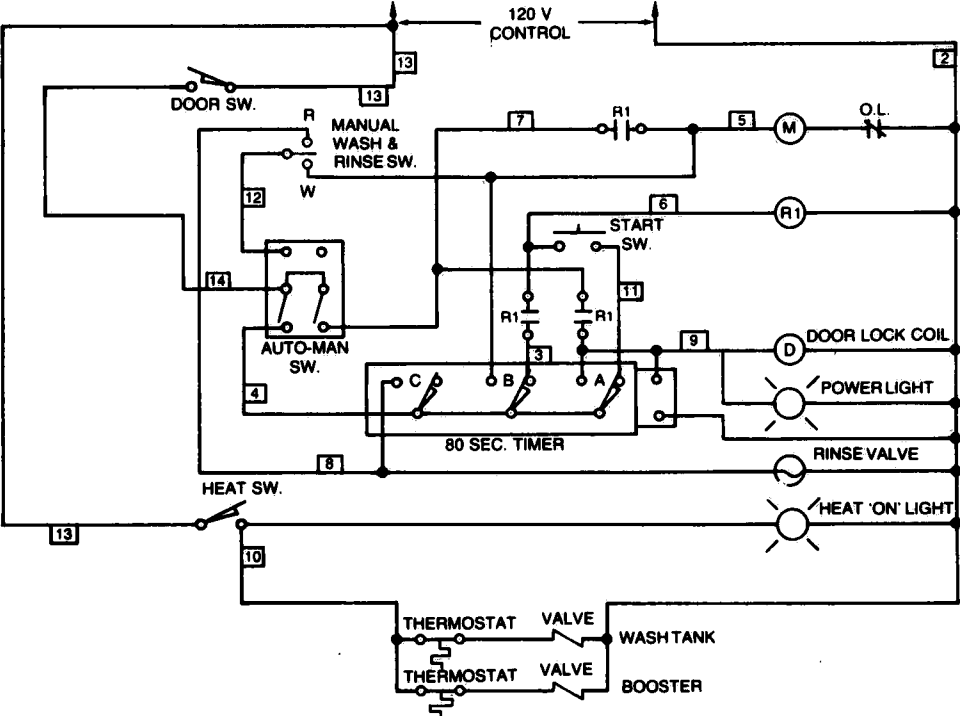
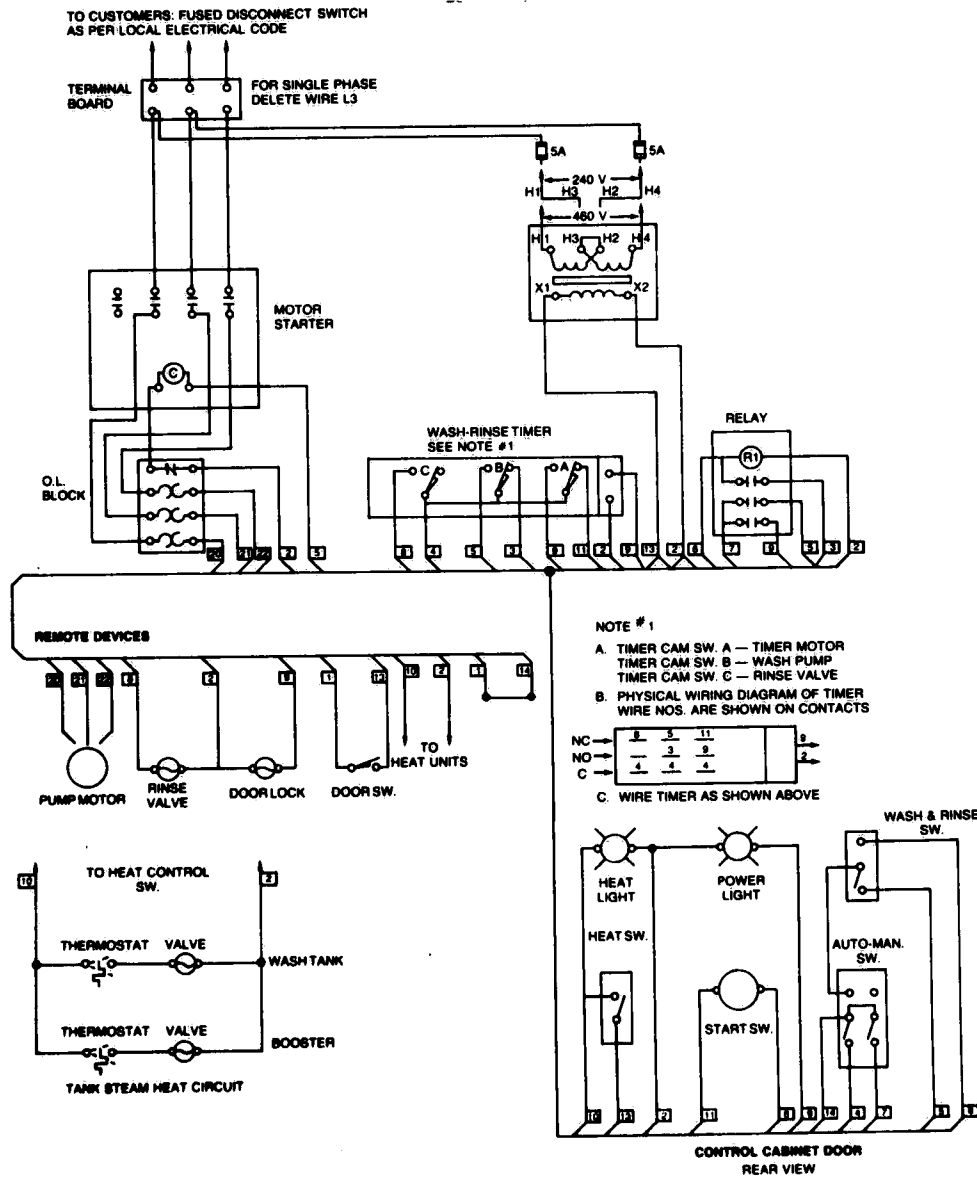

Figure 4-1. ELECTRIC SCHEMATIC (For Units Shipped After 1974).
Figure 4-2. ELECTRIC WIRING DIAGRAM.
3. Use Electric Schematic (Fig. 4-1) and Electric Wiring Diagram (Fig. 4-2) as aids in locating and understanding operation of Washer.